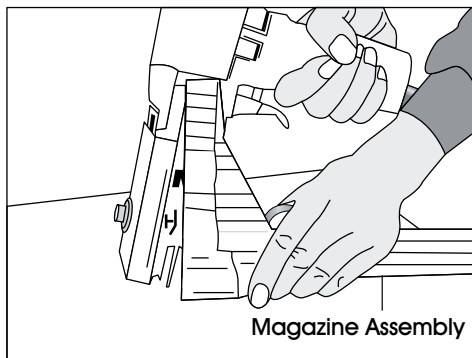

Figure 32
2. Remove magazine assembly. (See Figure 32)